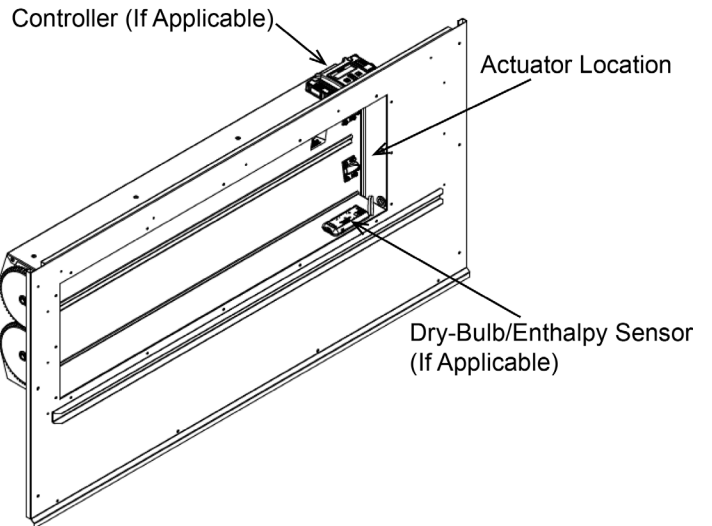

FIGURE 10 - CONTROLLER AND ACTUATOR
11. Leave the filter access panel above the outside air damper hood off at this point to access the controller and actuator. Controller and actuator are mounted directly to outside air damper assembly (see Figure 10).